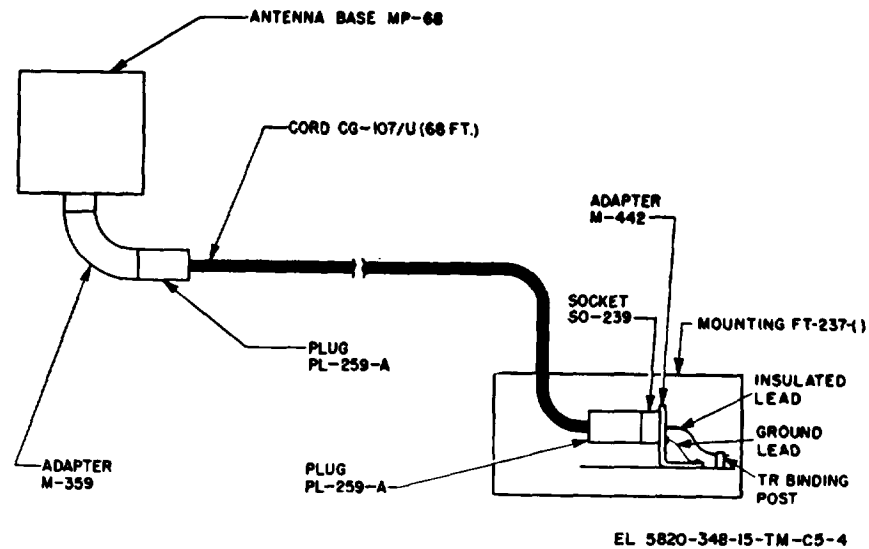

Figure 2-11. Using Adapter M-442 to connect Antenna Equipment RC-292 to radio set (SCR series).
d. When using Radio Sets SCR-508, SCR-528, SCR-608, and SCR-628, perform the following procedures (Fig. 2-11).
- (1) Slide the radio transmitter to the right on Mounting FT-237 () or remove it from the mounting.
- (2) On the mounting, remove the screw located in front of the TR binding post.
- (3) Place Adapter M-442 on Mounting FT-237 so that the adapter mounting hole is over the hole where the screw was removed. Socket SO-239 must face the operator. Position the